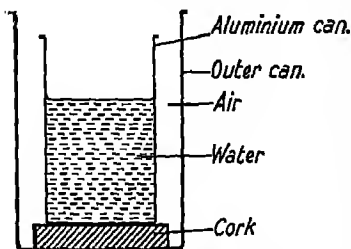

FIG. 235. A simple calorimeter.
**Expt. 278.** Obtain a thin aluminium can. The amount of heat taken by such a vessel can be neglected for the purpose of this experiment. Stand it on corks inside another larger can as shown in Fig. 235. Put in the inner can (which may be called a calorimeter) some water at the ordinary temperature of the room. Note the volume of water